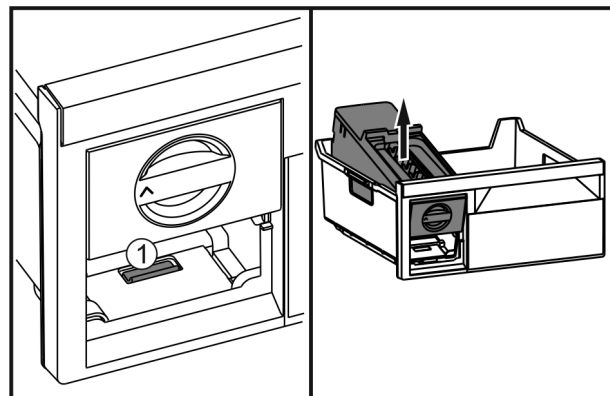

Fig. 37
- ▶ Press the lug *Fig. 37 (1)*, lift up the EasyTwist-Ice at the back and take it out of the freezer drawer.